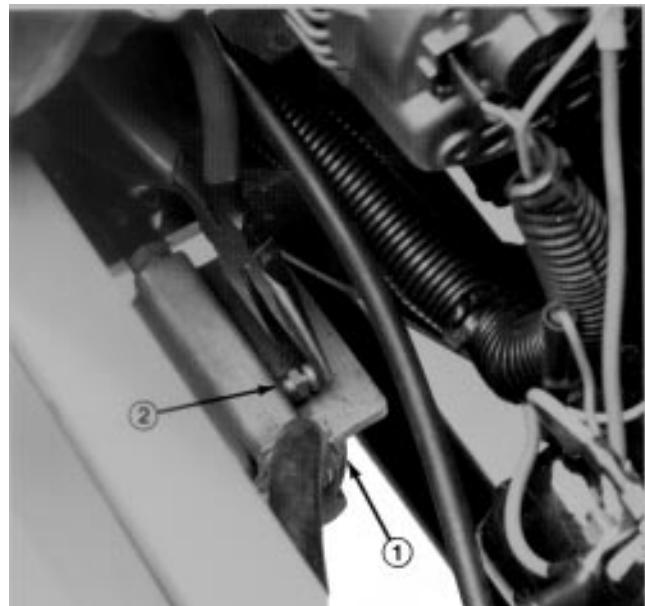

Figure 21
- Loosen air bleed screw on top of fuel filter/water separator (Fig. 21).